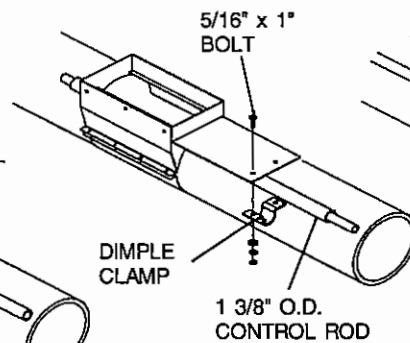

FIG. 15
- 6A. For bolt-on intermediate wells, attach the intermediate bin well gate(s) to 1 3/8" O.D. control pipe: See Fig. 15.